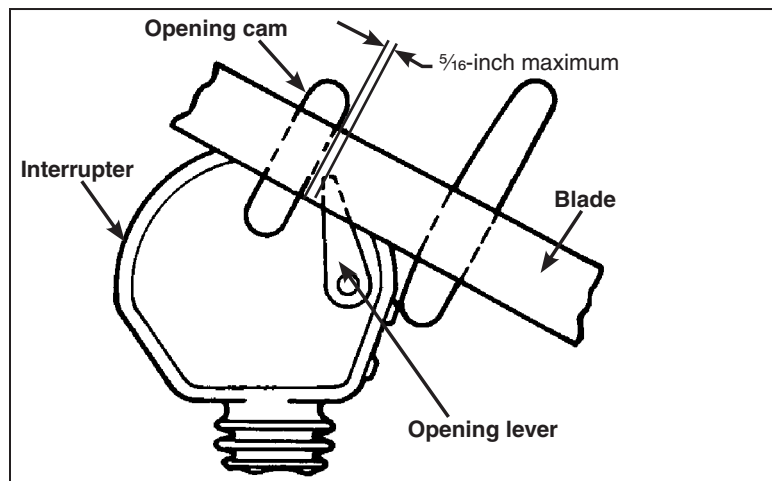

Figure 38. Blade assembly moving in the closing direction.
- (a) As the blade moves in the closing direction, clearance between the blade opening cam and the interrupter opening lever must be within the limit shown. See Figure 38.